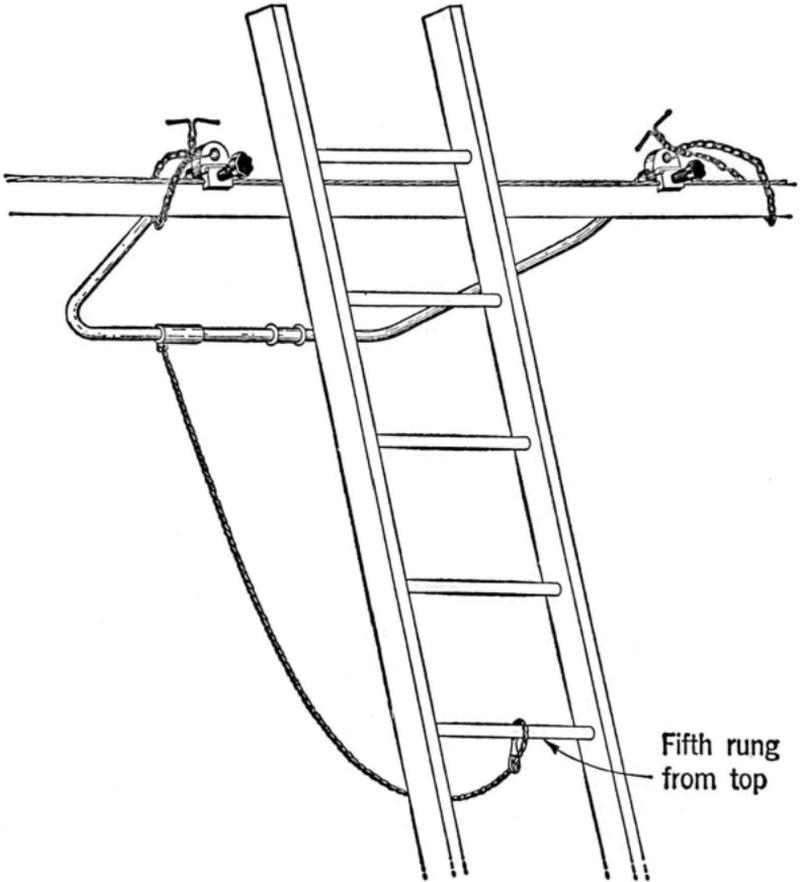

Fig. 2
3.01 Place the ladder against the strand and attach the support to the strand, holding the support in the horizontal position indicated in Fig. 2. Make sure that the safety chains are placed around the cable and strand. After the clamps are tightened and the support is free it will assume a position intermediate between the horizontal and vertical.
3.02 Attach the rope to the fifth rung of the ladder as shown in Fig. 2; this will prevent the support from passing over the top of the ladder when the ladder is lowered into the support.